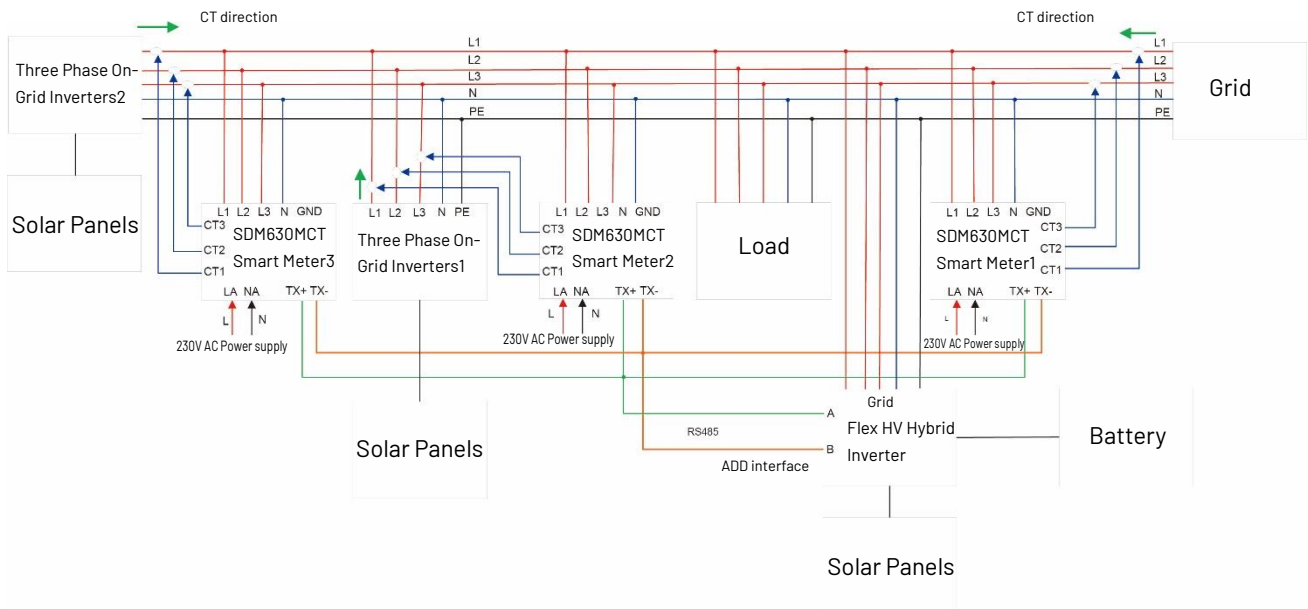

Figure 5-28 Connect two On-Grid three-phase inverters
4) Connect two On-Grid three-phase inverters (Figure 5-28): The local address needs to be set as "001" on the inverter screen, and meter1 address set as "001", meter2 address set as "002", and meter3 address set as "003". The address of meter1 itself needs to be set to "001", meter2 needs to be set to "002", and meter3 needs to be set to "003".